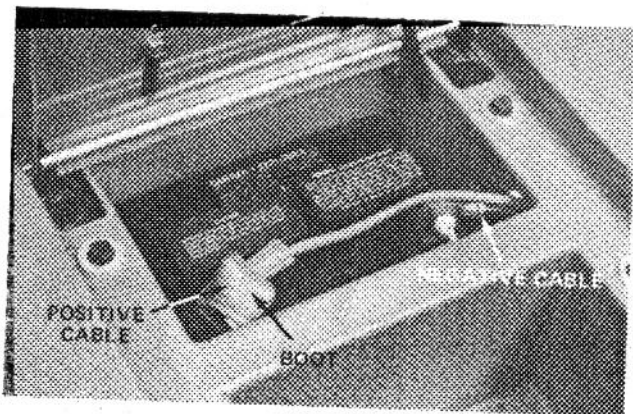

Figure 11
7. Install the positive cable (rubber boot over end) to the positive (+) terminal and the negative cable (black) to the negative (-) terminal of the battery and secure with capscrews and wing nuts. Slide the rubber boot over the positive terminal to prevent possible short-out from occurring (Fig. 11).